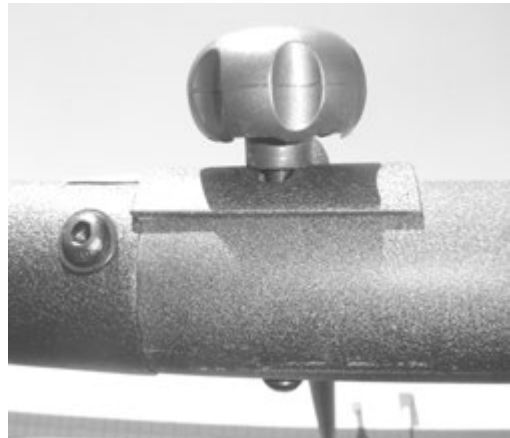
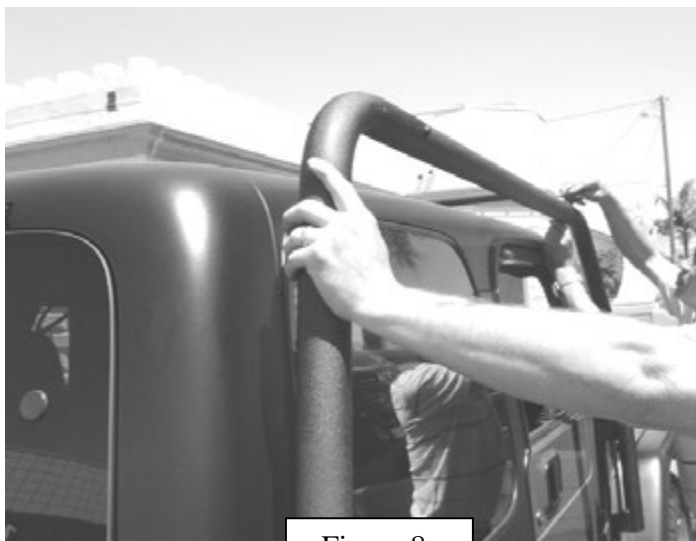

Figure 7
Figure 8
13. Place the front crossbar on the upright. Insert the 1/4" x 3 3/8" Knob Bolt through the bottom of upright and through the cross bar. Tighten the bolt with the plastic crossbar knob and allen key supplied. (Figure 7) Repeat on the opposite side. It may be necessary for an assistant to put pressure on the uprights to get them in the proper location for the cross bars to attach. (Figure 8)